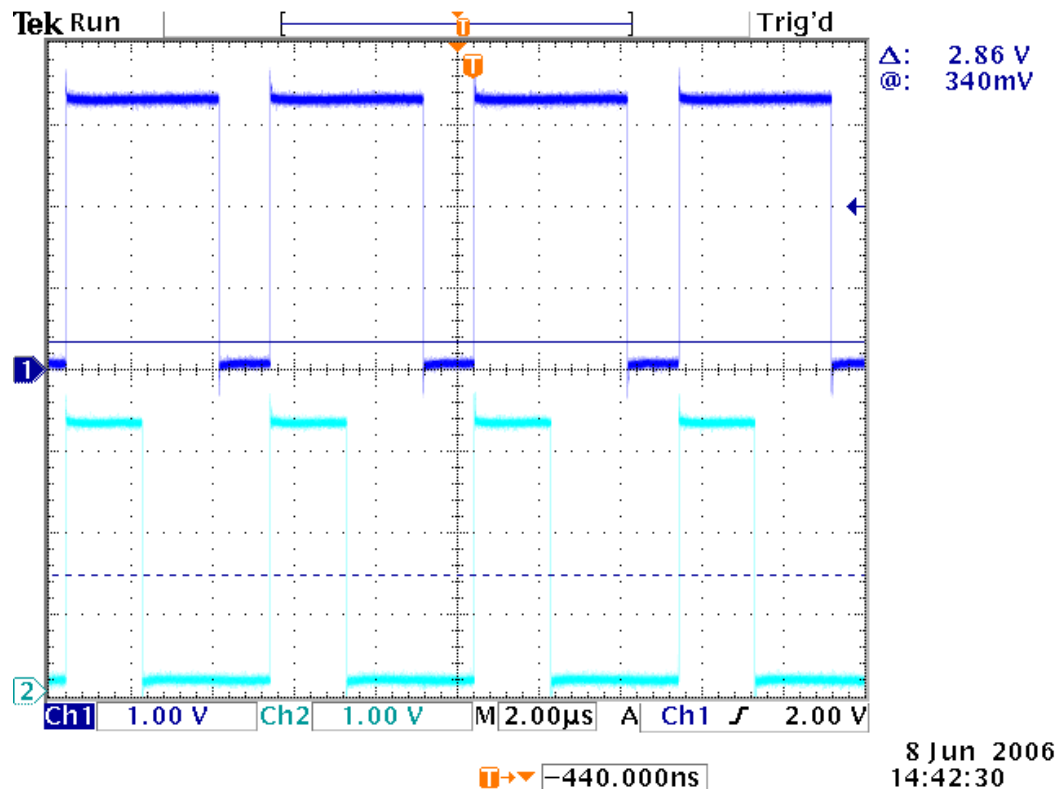

Figure 5. PWM waveform from Build1A on EPWM1A.
- Inspect the PWM output on EPWM1A (P8, pin 9) and EPWM1B (P8, pin 10), on the EZDSP connector P8. Vary the duty cycle by modifying the value of the variable 'duty1' and 'duty2'. A screen capture of the PWM waveforms is shown in Figure 5